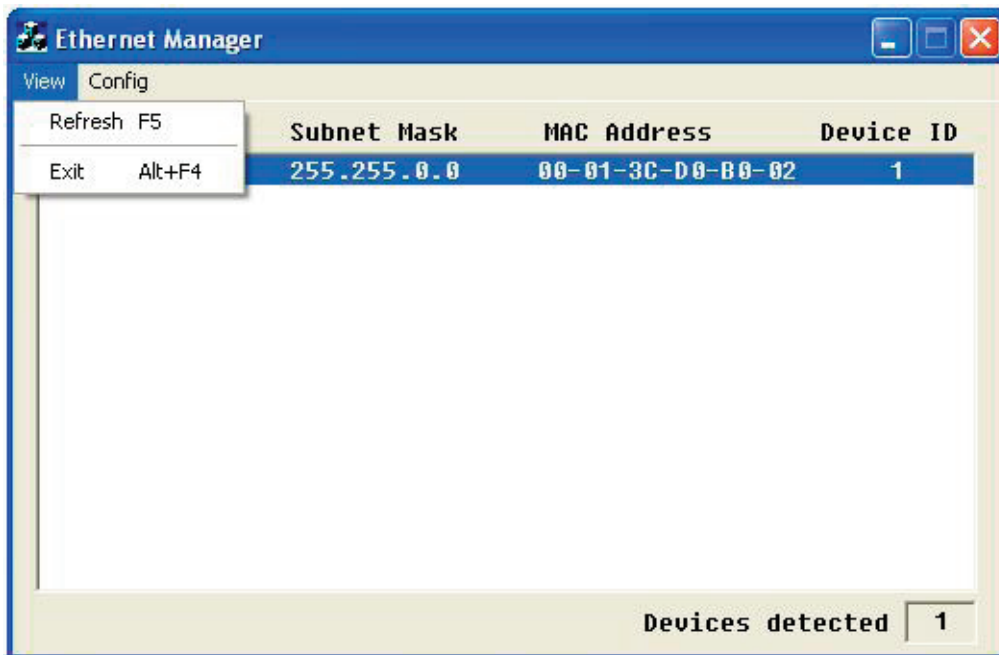

Figure A-3. Refresh Ethernet manager screen.
5. If your device is not found, check the connection and click "View" → "Refresh." See Figure A-3.